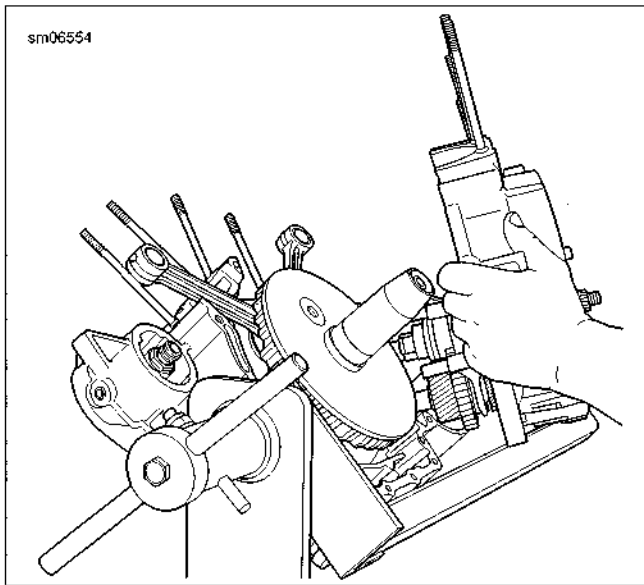

Figure 5-70. Assembling Crankcases With Crankshaft Guide Tool (Part No. HD-42326-A)
- See Figure 5-70. Assemble crankcase halves together.